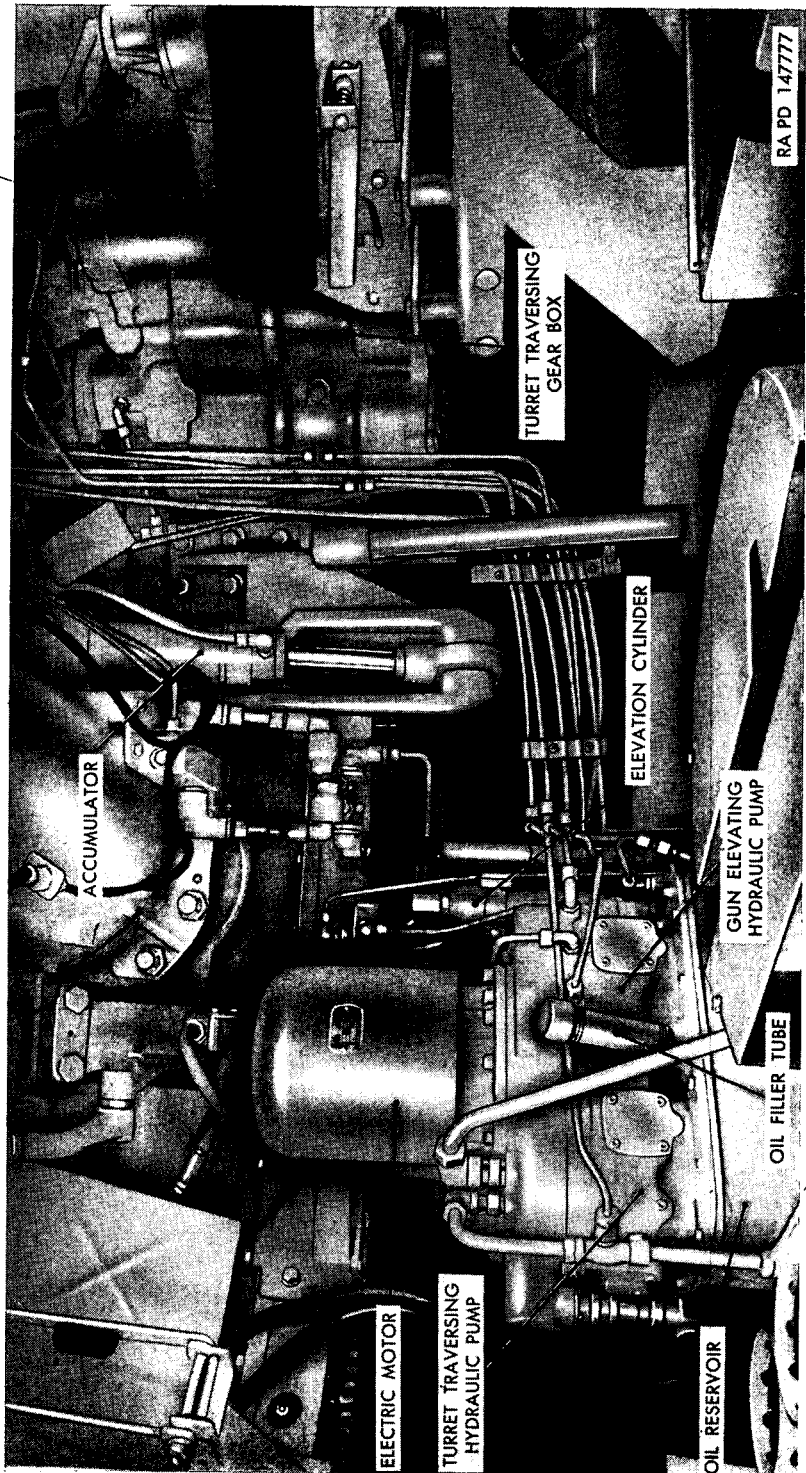

Figure 296. Turret traversing and gun elevating system.
- (2) *Power traversing system* (fig. 296). In the power traversing system, electrical impulses from the commander's control handle (fig. 26) or the gunner's control handle (fig. 22) operate an electric motor which controls the turret traverse pump. This pump feeds oil from an oil reservoir to a hydraulic motor which drives the gear train to traverse the turret.
a. **CHECK OIL LEVEL IN OIL RESERVE** (fig. 296). Remove cap from oil filler tube and check oil level in oil reservoir. Oil level must be maintained at "FULL" mark on indicator.
b. **DRAIN OIL RESERVOIR.** Wipe off outside of oil reservoir (fig. 296). Place a clear container of at least 1½-gallon capacity under the reservoir. Remove four drain plugs and allow reservoir to drain. Install four gaskets and drain plugs.
c. **FILL OIL RESERVOIR** (fig. 296). Clean top of reservoir. Remove cap from oil filler tube and check oil level as outlined in *a* above. Add oil as specified on lubrication order (fig. 87) to keep oil level at "FULL" mark.